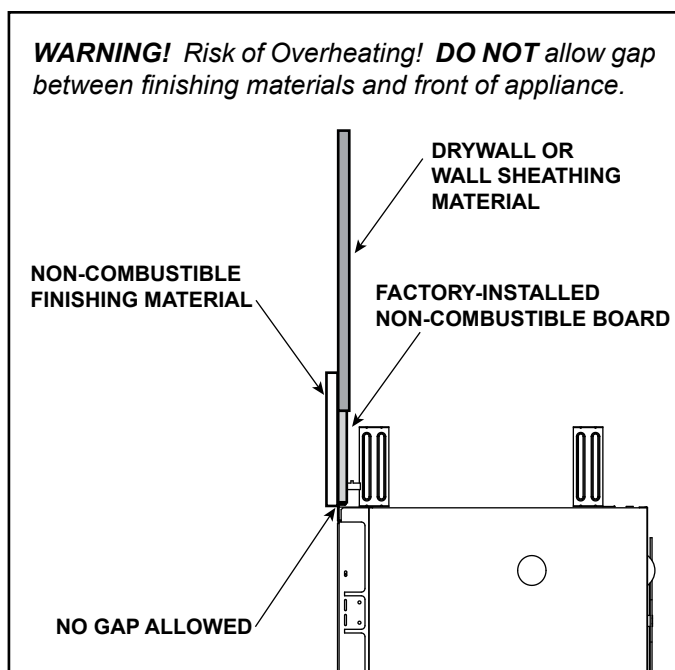
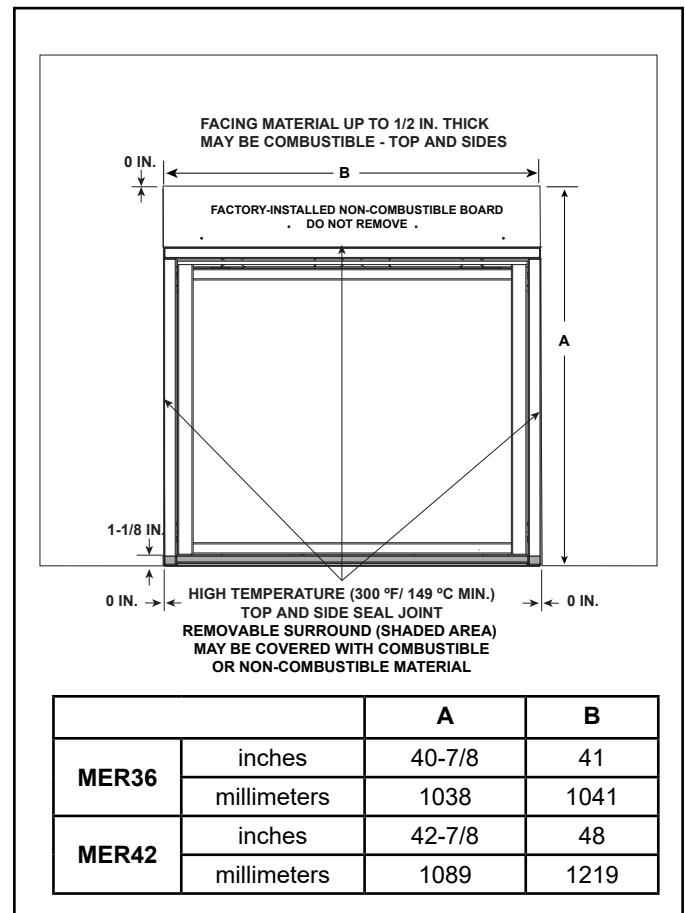

Figure 10.1 Finishing Material Installed
Figure 10.2 Non-combustible Facing Diagram
- Seal gaps between the finished wall and appliance top and sides using a 300 °F minimum sealant. Refer to Figure 10.1 and Figure 10.2.
- Finishing materials must be installed with no gaps in order to prevent the escape of heat between the finishing material and the wall. See Figure 10.1.